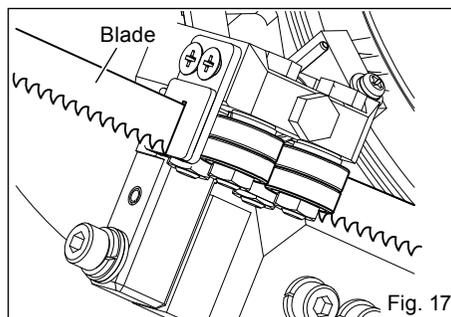

Fig. 17
Attach the blade, using steps (1) through (5) in Fig. 17. Then turn the tension lever clockwise (6) to apply tension to the blade.